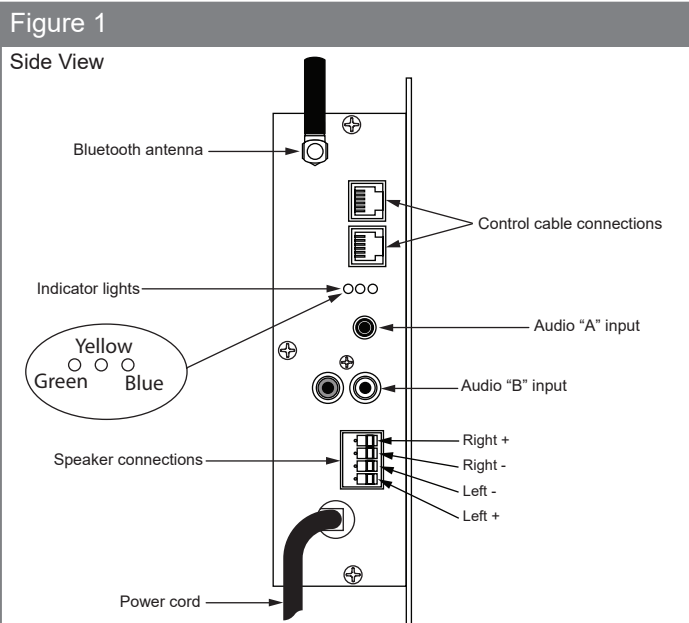

Figure 2
- Route the control cable from the module location to the 5GE-SMP Series generator or digital shower valve. The manners in which the cables are routed are dependent on what is best suited for the installation. There are multiple connection jacks in 5GE-SMP Series generator. (See figure 2 for the system wiring diagram).
- Refer to the wiring diagram on (Figure 2) for connecting the speakers to the control module, ensuring the wall thickness is no greater than 7/8".